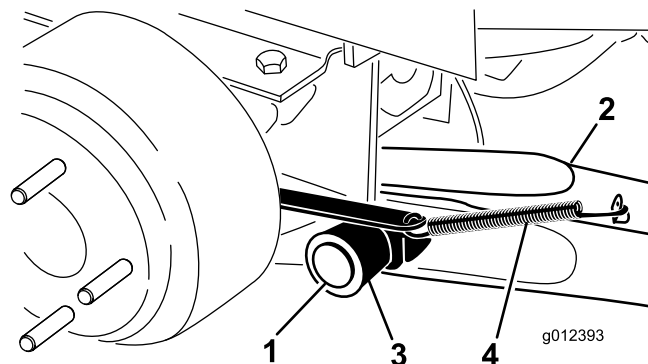

Figure 3
4. Mount a lift arm to the pivot bracket with a pivot pin and a cotter pin (Figure 3). Mount the lift arm with the bend positioned outward.
5. Hook the brake return spring to the tab on the lift arm (Figure 3).